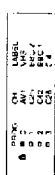

Fig. 25
- 5 The symbol **PR** appears in front of the programme number indicating that this programme is now blocked. (See Fig. 25.)